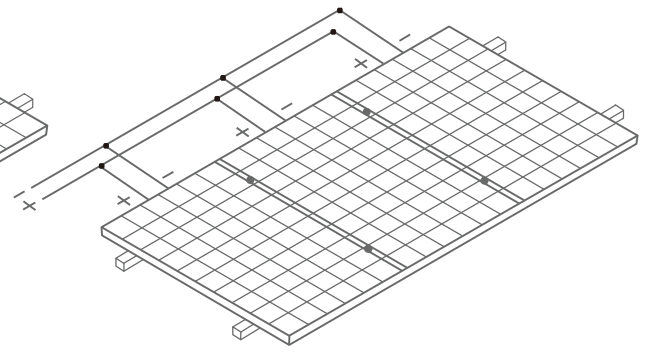

Figure 6 Connection in parallel
- When connected in parallel, the current output is equal to the sum of each string's current (as shown in Figure 6). Fuse is necessary for each module string. Take reference to the local regulation. Recommended maximum parallel Modules configurations: Fuse rating/ (1.3\* short-circuit current).